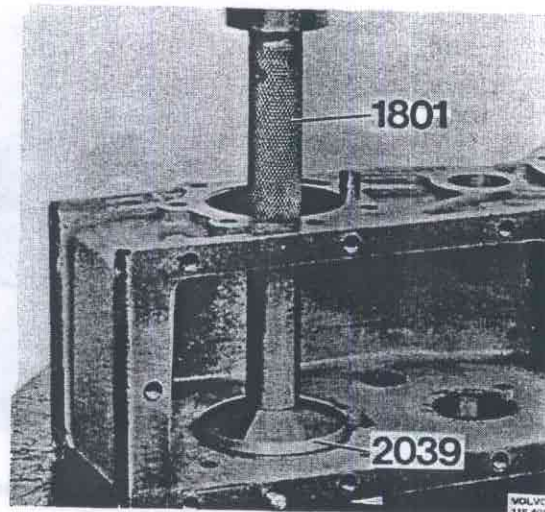

Fig. 43-153. Driving out outer races
11. Press out the outer race for the output shaft bearing with 1801 + 2039, Fig. 43-153.